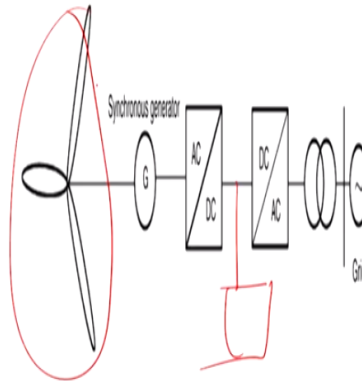

Fig.4: Schematic diagram of grid-connected wind power system (connection via inverter)
- ❖ Connection via inverter (Fig.4)